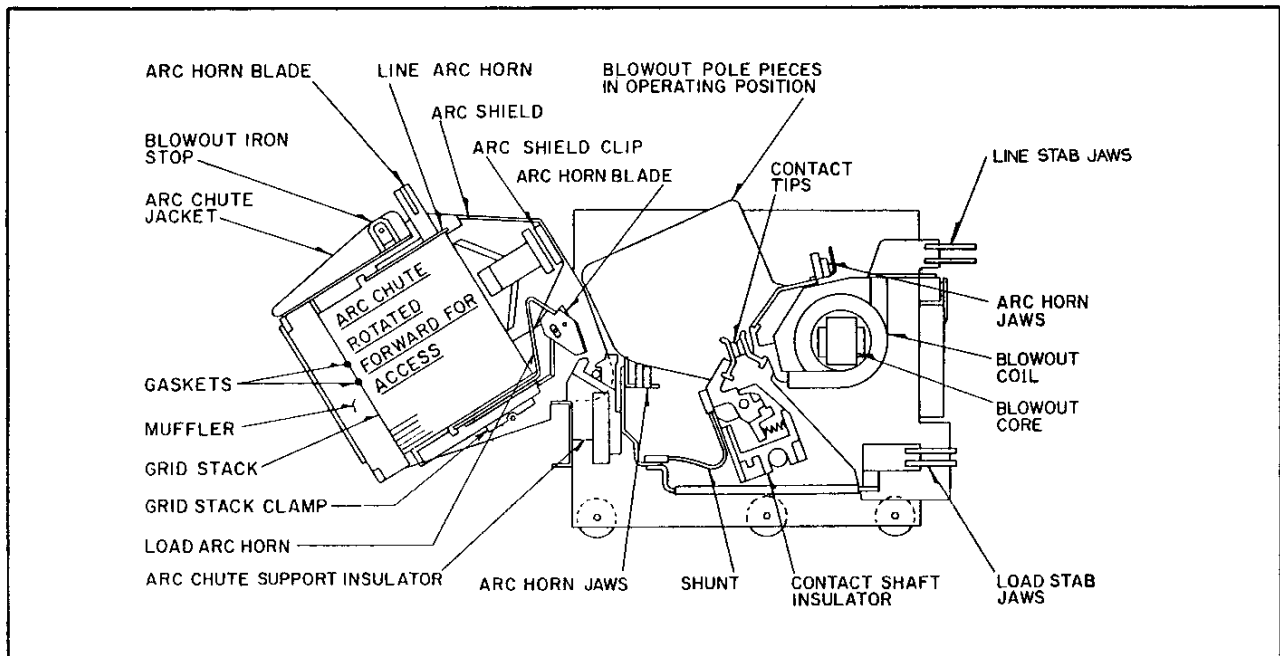

Fig. 8 Sectional View Through Contacts (Dwg. 5250C05)
For visual inspection of the contacts and shunts the arc chutes may be rotated forward out of the normal operating position as shown in Figure 8.
Arc chutes can be removed completely by first rotating them forward toward the front as shown in Fig. 8 and then lifting upward until the horizontal pivot bolt comes free. It is not necessary to loosen hardware to remove the arc chutes.
- 1) Refer to Figure 8 and loosen the grid stack clamping screw.
- 13) Return arc chutes to contactor by dropping pivot bolt into the slot of molded arc chute support as shown in Figure 8 and then rotate the arc chute into operating position as shown in Figure 3. When in the operating position, arc horn blades should make at least .25" engagement with their respective arc horn jaws. If blowout pole pieces are not in their proper operating position, projections on the arc chute flanges will strike the pole piece assemblies preventing the arc chutes from being rotated into operating position. When the contactor is mounted in an Ampgard starter the arc chute will then prevent the enclosure door and isolating switch from being closed in the event the blowout pole pieces are not in their proper operating position.